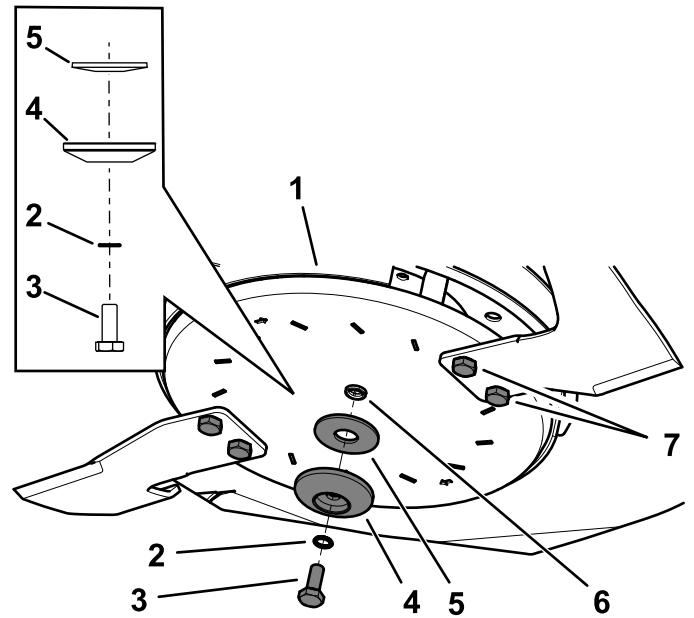

**Figure 104**
2. Remove the blade bolt, serrated washer, blade retainer, curved washer, and blade from the spindle shaft (Figure 104).